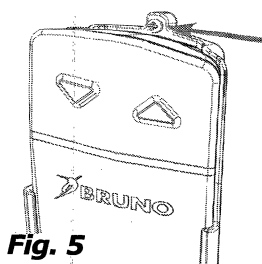

Fig. 5
- *Optional:* Install additional screw provided to prevent removal of transmitter from bracket (Fig. 5).